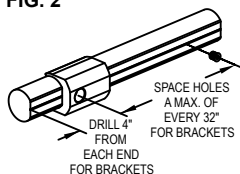

FIG. 3a
a. Drill 1-1/4" deep holes for splines using a 5/32" drill bit and a spline guide for hole placement. Attach splines to handrail. See Figure 3a.